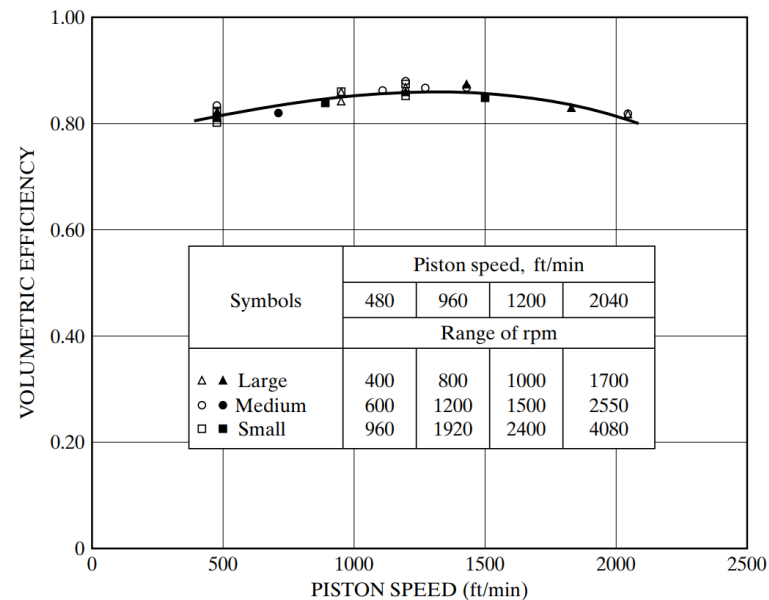

FIGURE 1
It is desirable to have **maximum volumetric efficiency** in the intake of any engine. This will **vary with engine speed**, as shown in Fig. 1, which represents the efficiency curve of reciprocating engines. There will be a certain **engine speed** at which volumetric efficiency **will be maximum**, decreasing at both higher and lower speeds. There are many physical and **operating variables** that shape this curve. These will be examined.
- It thus gets **heated to higher temperatures at low speeds**, which **lowers the volumetric** efficiency curve in Fig. 1 at the low-speed end.
- The result of this is a **lowering of the efficiency curve** on the high-speed end in Fig. 1.